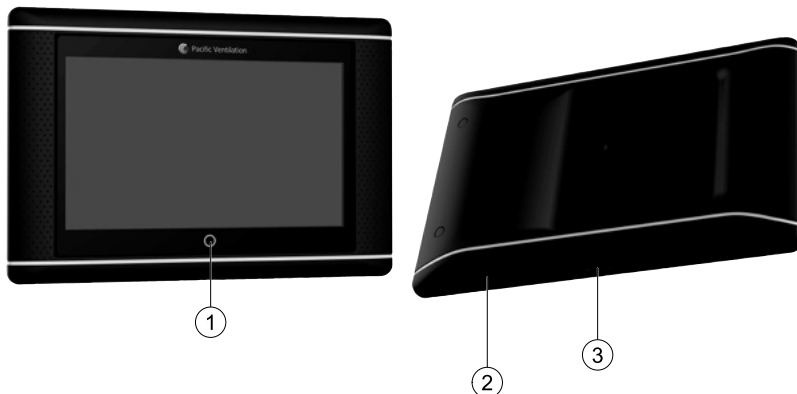

Fig. 6 (1) Home button, (2) USB connection, reboot button, (3) power supply and communication
You can always return to system overview dashboard by pressing the home button, figure 6, (1).